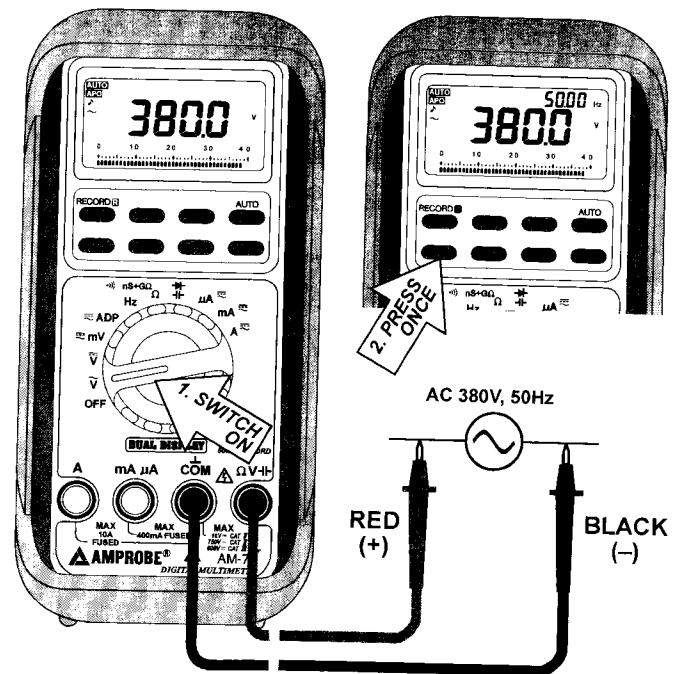

FIG 4. AC, AC+Hz VOLTAGE FUNCTIONS
- 3) Connect test leads to voltage source and observe the digital display, see **FIG 4**